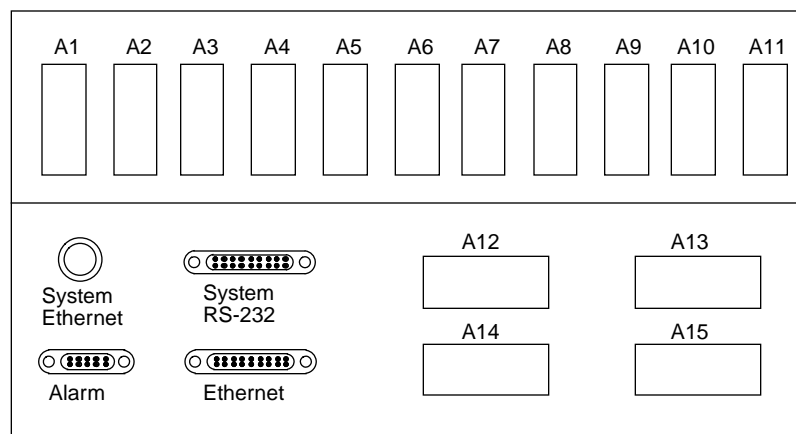

Figure 3. I/O Bulkhead
1. Remove the I/O bulkhead cover plate labeled “Ethernet” by removing its two securing screws. Refer to Figure 3 for the location of the I/O cabinet’s first EI-1 bulkhead location.
2. If you are installing an additional EI-1, remove a blank plate from slots A1 through A11. Refer to Figure 3.